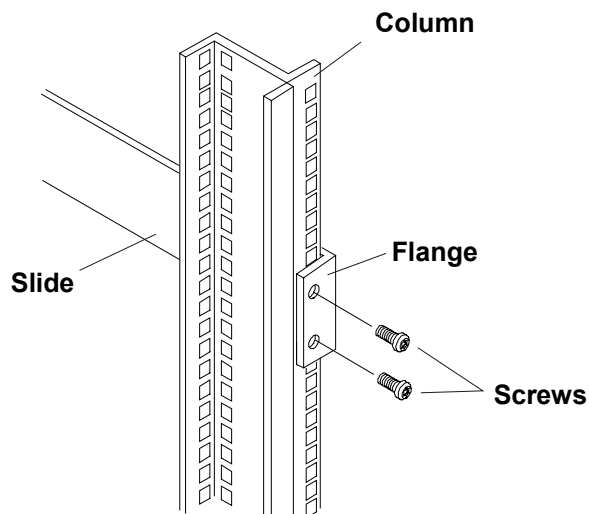

Figure 3-4. Mounting a Slide to a Column
2. Place the mounting flange of the slide on the outside face of the column, as shown in Figure 3-4. Do this at the front and rear columns.